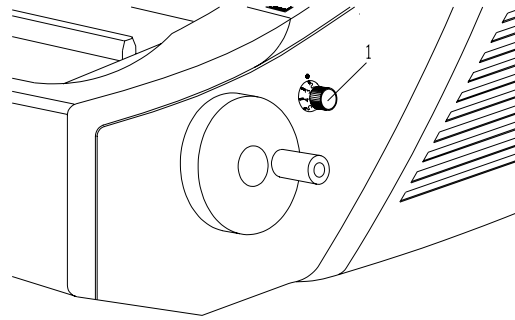

Fig. 23a
- To select the suction power or the required vacuum between 0 - 8, turn the operating knob (fig. 23a.1). (0 = no suction power, 8 = highest suction power).